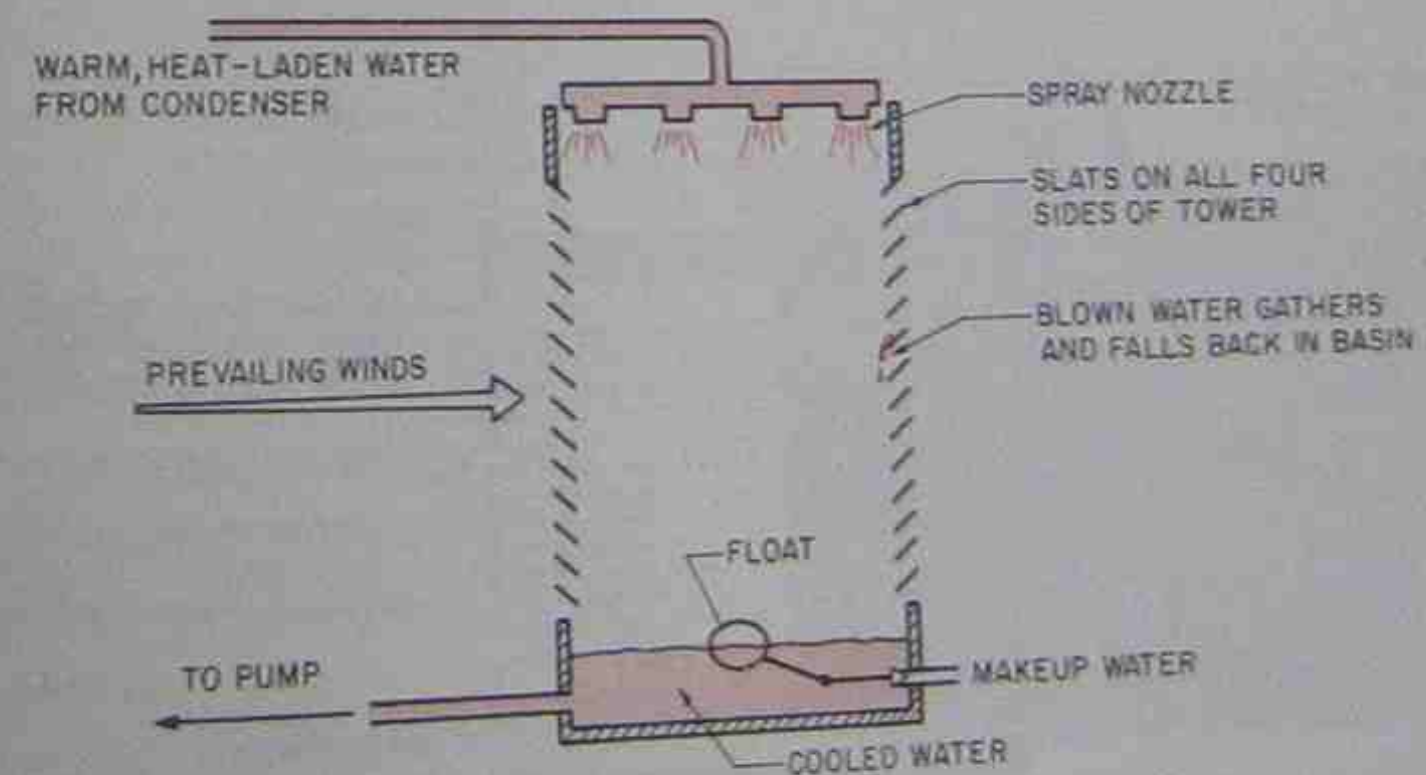

Figure 20-20. How the slats on the sides of the natural-draft cooling tower keep the water inside the tower when the wind is blowing.
These towers have two weather-related conditions that have to be dealt with: (1) The tower must be operated in the winter on refrigeration systems, and the water will freeze in some climates if freeze protection is not provided. Heat can be added to the water in the basin of the tower; antifreeze will also prevent this from happening, Figure 20-19. (2) The water can get cold enough to cause a head pressure drop. A water regulating valve can be installed to prevent this from happening. Natural-draft towers can be seen on top of buildings as structures that look like they are made of slats. These slats keep the water from blowing out of the tower, Figure 20-20.